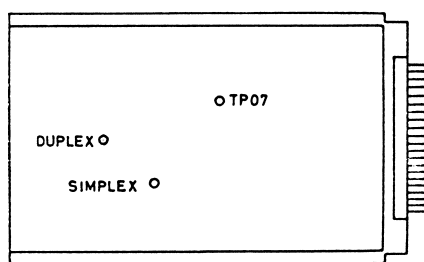

FIG. 8.1 SYNTHESIZER ALIGNMENT HOLES
- b. remove the AUX channel oscillator board, if installed, to give access to the synthesizer board below, for checking and aligning. The synthesizer board is completely screened with a metal box which divides the circuit into four individually screened compartments interconnected via feed-through II filters. The top cover of the box may be unscrewed but is fitted with three holes as shown in Fig. 8.1 to permit adjustment (on receive) of the crystals and to allow to VCO to be checked on TP07 without the cover being removed.
- g. The free running frequencies can easily be checked by connecting the test point TP 7 to ground. TP 7 can be located through the hole in the top-cover shown in Fig. 8.1. On a simplex channel the frequency on the counter should be 168.650 MHz  $\pm 100$  KHz and on a duplex channel the frequency shall be 173.250 MHz  $\pm 100$  KHz. If one of the frequencies is out of range the top-cover has to be removed and the VCO trimmers readjusted as described in "h".